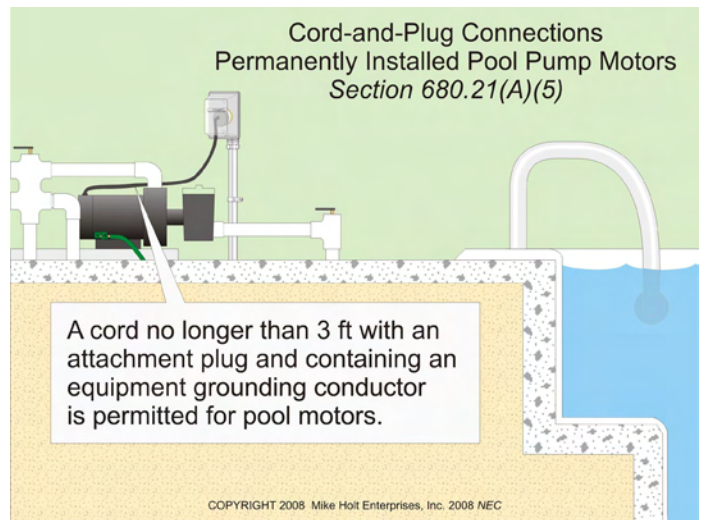

Figure 680-12
(5) Cord-and-Plug Connections. A cord no longer than 3 ft, with an attachment plug and containing an equipment grounding conductor, sized in accordance with 250.122, is permitted for permanently installed pool motors. **Figure 680-12**